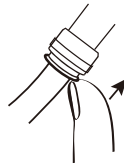

Fig.8
2. Hold the inner ring inward(Fig.8).